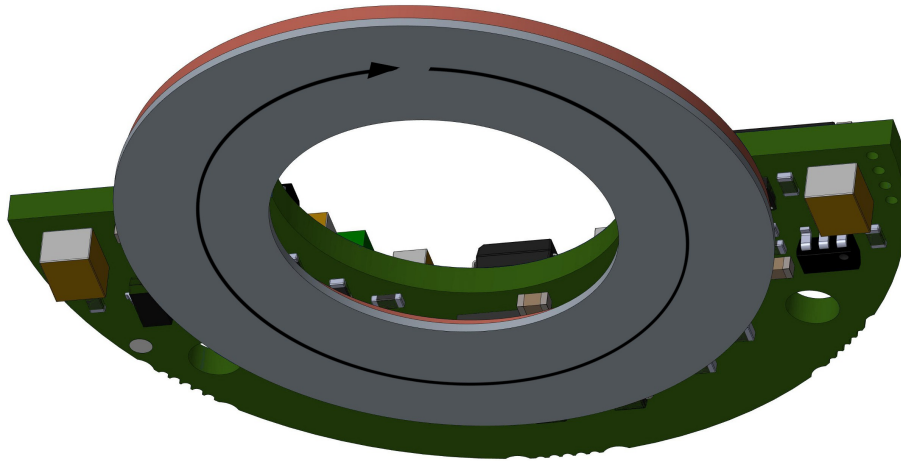

Figure 5 - Counting direction
The **standard counting direction** is to be intended with ring turning as indicated by the arrow in Figure 5. When the ring turns in the direction indicated by the arrow, in the absolute measuring system the count is up; in the incremental measuring system the rising edge of A signal leads the rising edge of B signal. The counting direction cannot be changed.
- The position information increases when the ring rotates as indicated by the arrow in Figure 5.